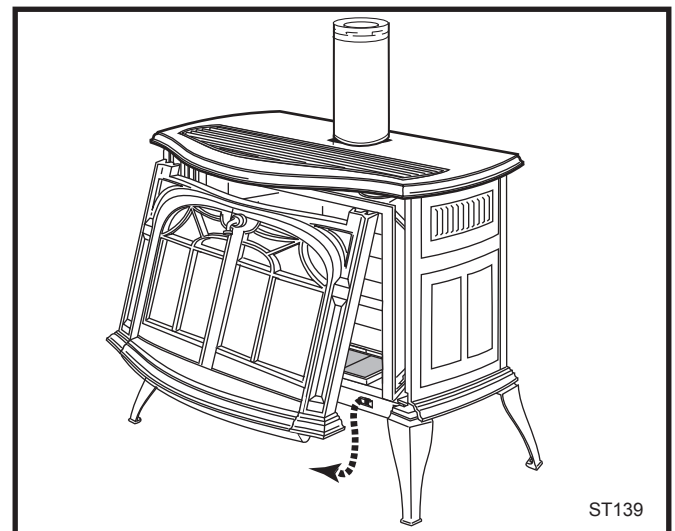

Fig. 62 Remove the Stove Front.
2. Lift the Stove Front up and then swing the bottom out to disengage it from the heater shell. (Fig. 62)
1. Remove the Front, Glass Frame and Glass Panel. (Figs. 62 & 63) Remove the old gasket. Use a razor blade to separate the glass and gasket from the frame, and to clean the glass of any remaining cement or bits of gasket. Use a cold chisel if necessary.